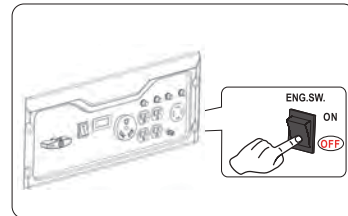

Fig 17
1. Turn the engine ON/OFF switch to the "OFF" position. (See fig 17)